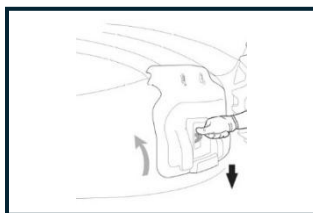

FIG 8D
7.2.2 Push the safety lever slightly, open the side discharge guard, and insert the side discharge chute as shown in Figures 8D, 8E, and 8F.